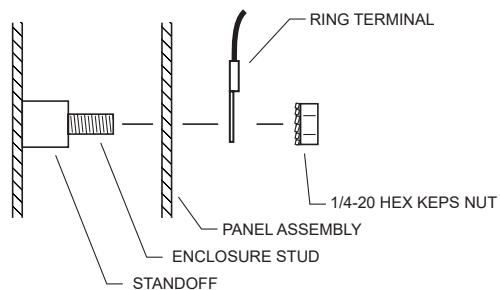

Figure 1. Panel and Ground Wire Installation
5. **Place the Panel Assembly over the enclosure studs and secure with 1/4-20 Hex KEPS Nuts as shown in Figure 1 below.**